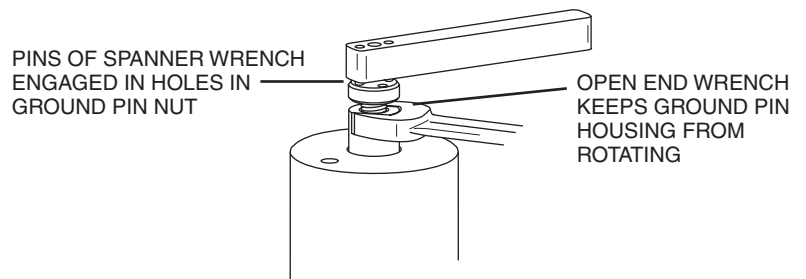

Figure 2: Loosening the ground pin nut
4. Engage the pins of the spanner wrench in two of the holes in the ground pin nut, and gently unscrew the ground pin nut while supporting the housing. (**Figure 2**)